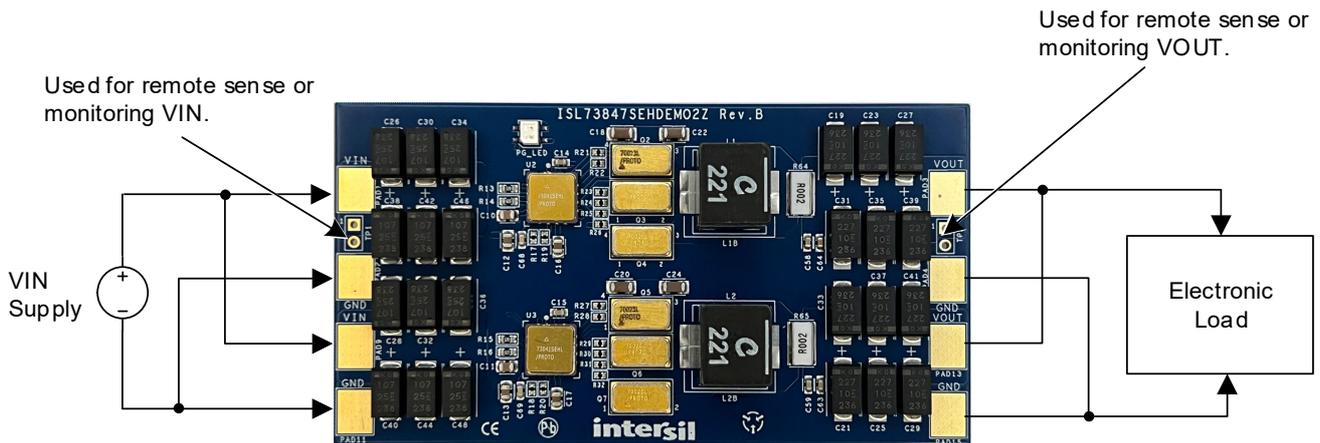

Figure 2. ISL73847SEHDEMO2Z Board Setup
1. Apply a 4.5V to 15V voltage to V_{IN} connectors, as shown in Figure 2. To use 4w sense lines from a power supply or a voltmeter to monitor the input voltage, solder a jumper to TP1.
2. If required, a resistor or electronic load can be connected to the V_{OUT} connectors, as shown in Figure 2. To use 4w sense lines from an electronic load, solder a jumper to TP2.